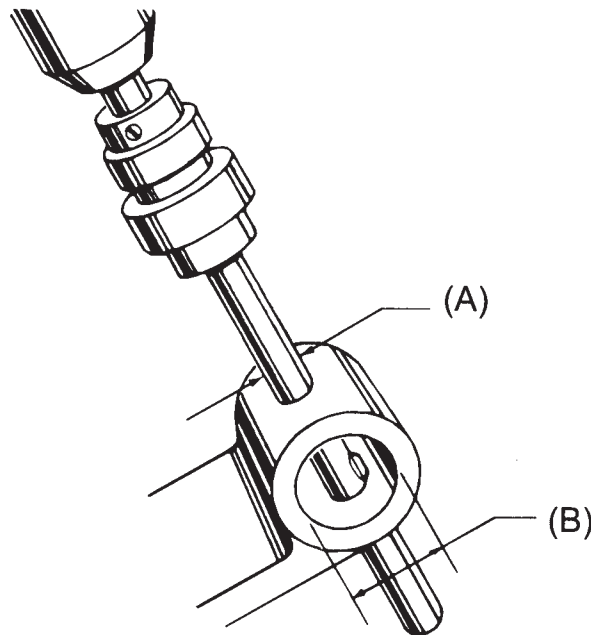

Figure 4
*Standard blades* may be used for intersecting hole applications where the larger hole “B” is 12 or more times *greater* than the smaller hole “A” (refer to Figure 4).